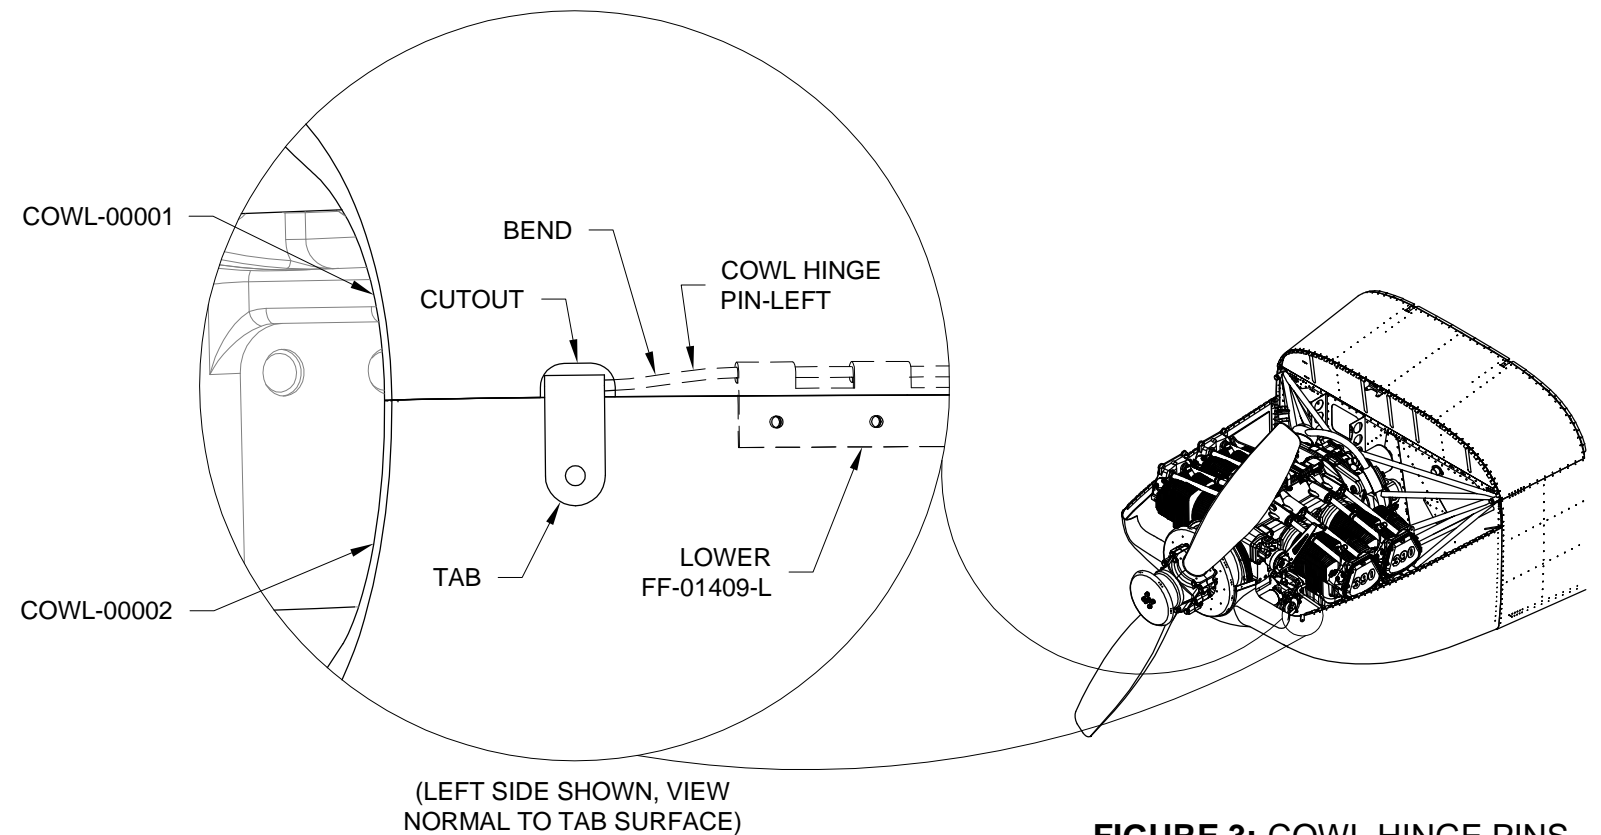

FIGURE 3: COWL HINGE PINS
Step 10: Create cutouts in the top cowl for the COWL HINGE PIN-LEFT and COWL HINGE PIN-RIGHT tabs as shown in the detail view of Figure 3.